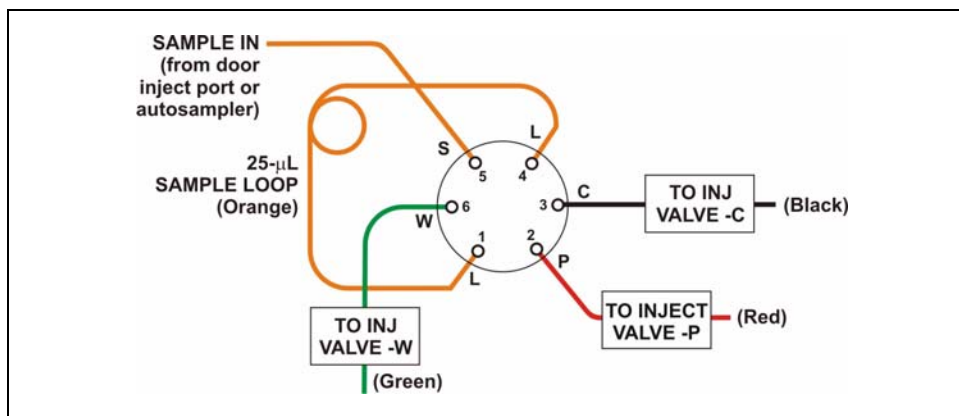

Figure 5-10. Injection Valve Plumbing
5. Reconnect all liquid lines to the injection valve (see Figure 5-10).